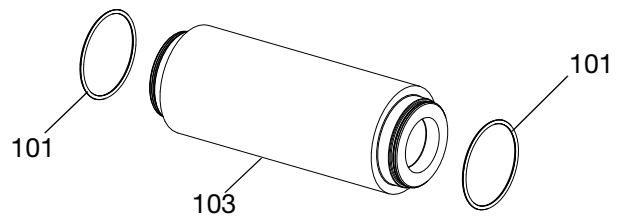

FIG. 15
10. Remove two o-rings (101) from pump cylinder (103). See FIG. 15.